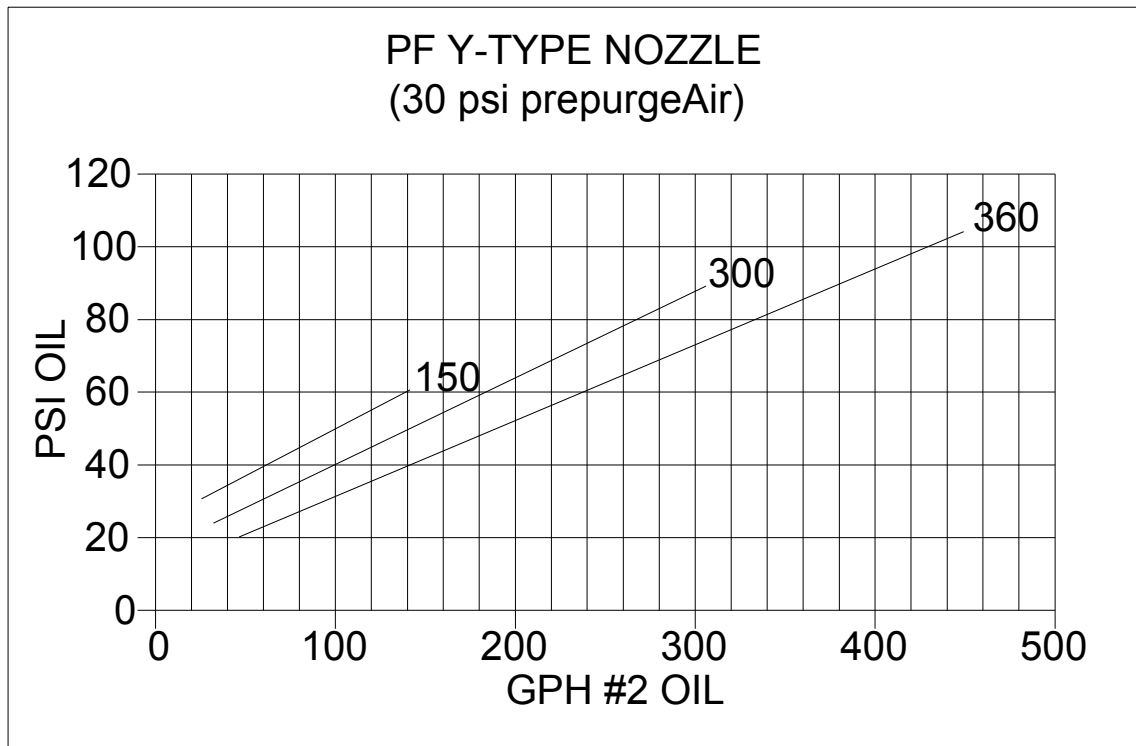

Figure 6: Pressure/Flow Curve for PF Y-Type Nozzles
3.5.3 Install oil pressure and vacuum gauges. See Figure 4 for mechanical operation and oil and air pressure gauge location for the system. Check suction line to be sure manual valve is open and that any check valves are opening in the proper direction of oil flow. Check oil filter for tightness. There should be no manual valve in the return line from pump to tank. Refer to Figure 6 for the approximate nozzle oil pressures for a specific firing rate. The corresponding atomizing air pressures will typically be 5 to 10 PSI lower than the oil pressure at high fire. **NOTE:** During pre-purge make an initial atomizing air adjustment of approximately 20 to 30 PSI by setting the bleed valve on the compressor. At low fire the atomizing air pressure will typically be 5 to 10 PSI higher than the oil pressure. The atomizing air line from the compressor to the burner shall be a minimum of $\frac{3}{4}$ " NPT for the UCM-200 through the UCM-600, for a maximum equivalent length of 300 ft. Larger UCM models shall have a minimum of 1" NPT for the atomizing air line.